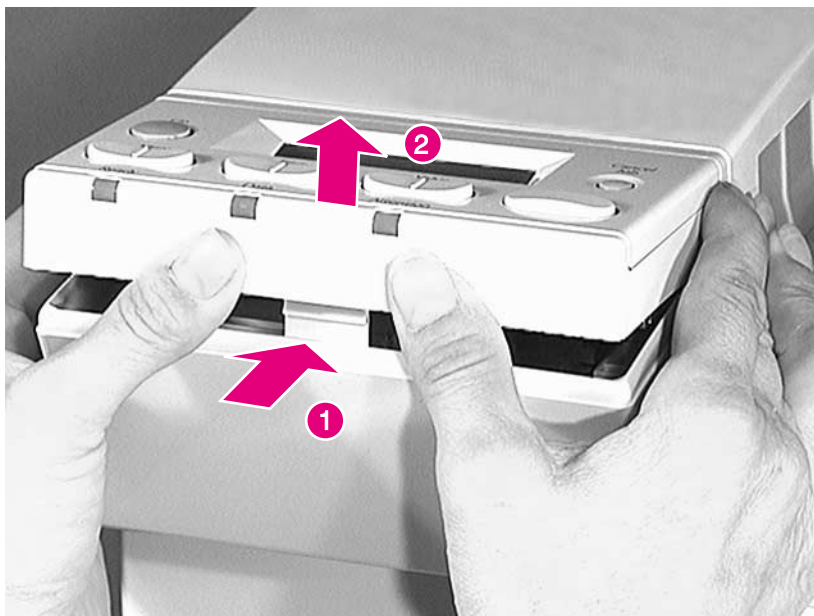
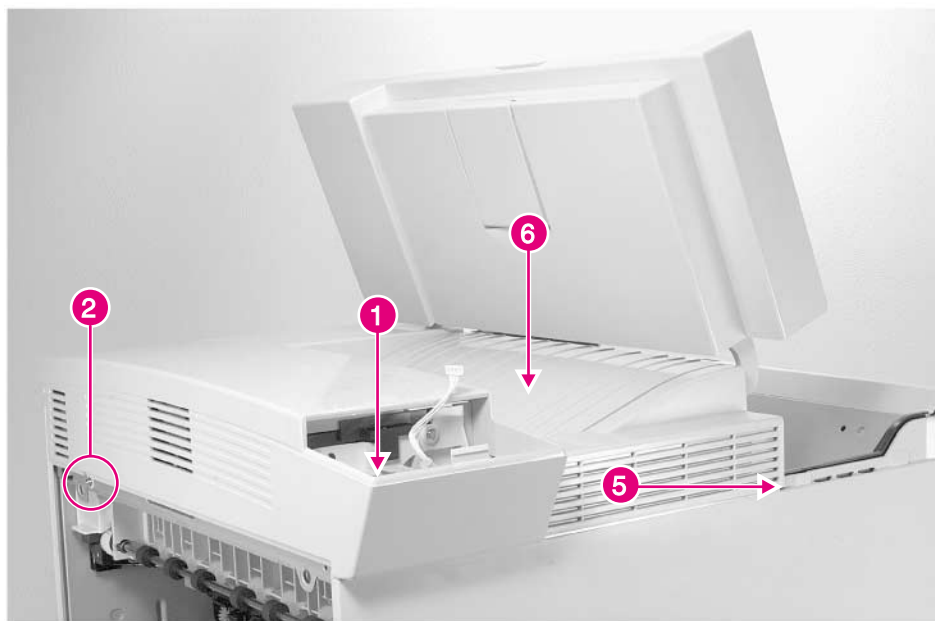

Figure 6-3 **Control Panel (1 of 2)**
Figure 6-10 Top Cover (1 of 2)
- 1 While pushing in on the center area (figure 6-3, callout), lift up on the forward edge of the control panel to release the plastic retaining tab.
- 1 Remove the Control Panel (see figure 6-3 on page 265), then remove 1 screw (figure 6-10, callout 1).
- 2 Open the Diverter Assembly access door, and remove 1 screw (figure 6-10, callout 2).
- 5 Lift (and hold) the top cover door up, and carefully pull out on the cover to release the retaining tab (figure 6-10, callout 5).
- 6 Hold the Face-down Bin (figure 6-10, callout 6) down while carefully and slowly lifting the top cover straight up until it clears the Face-down Bin Full sensor flag and the Delivery Unit.
- 1 Hold the top cover door up and the Face-down Bin (figure 6-10, callout 6) down while lowering the cover into position.
- Top Cover (see figure 6-10 on page 273)
- 2 Remove the top cover (see figure 6-10 on page 273).